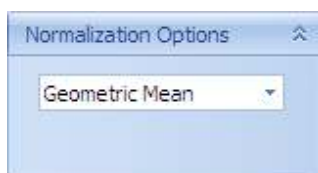

Figure 5.13 Model Equations drop-down list
2. In the normalization option pane, select one normalization method from the drop-down list (Figure 5.13).